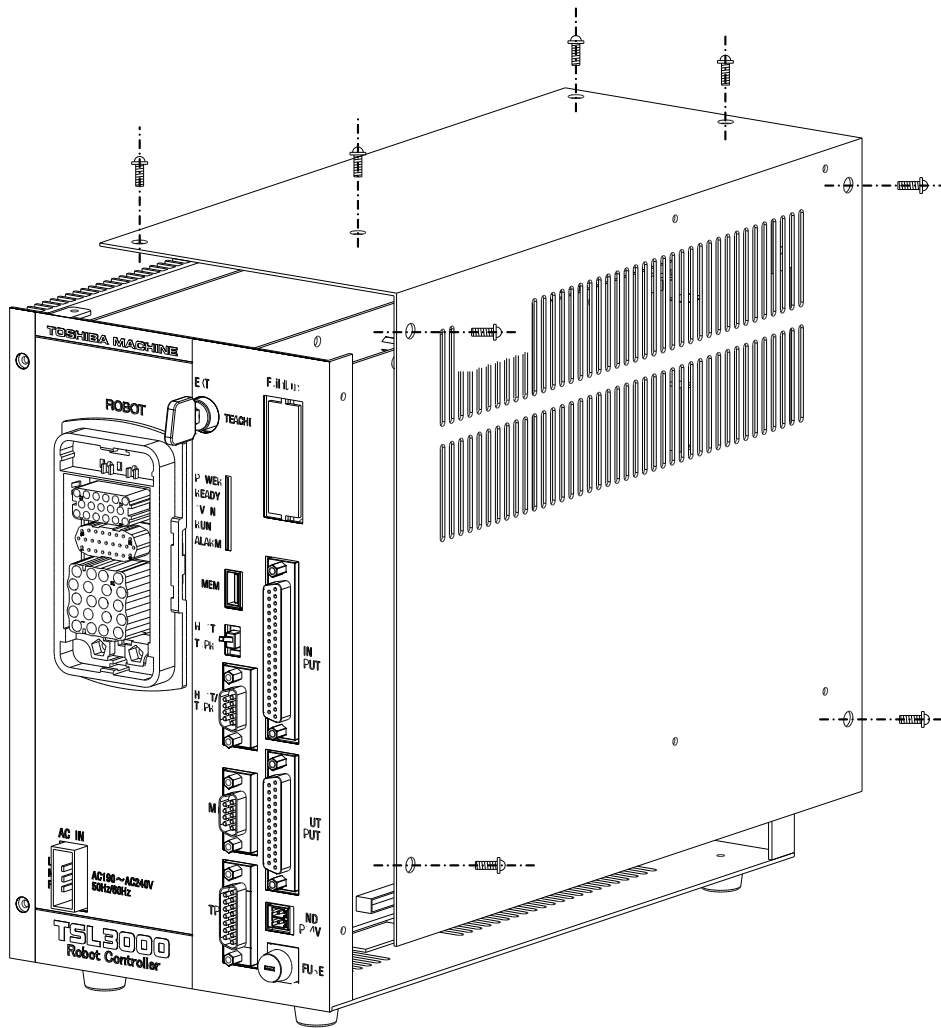

Fig. 10.4 Removing upper cover (TSL3000)
- c) To do maintenance of the controller, do it with the upper cover removed. (See Fig. 10.4.)